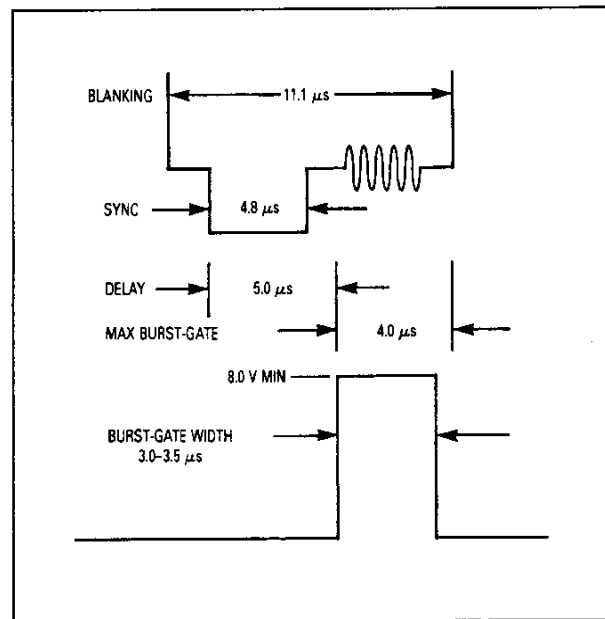
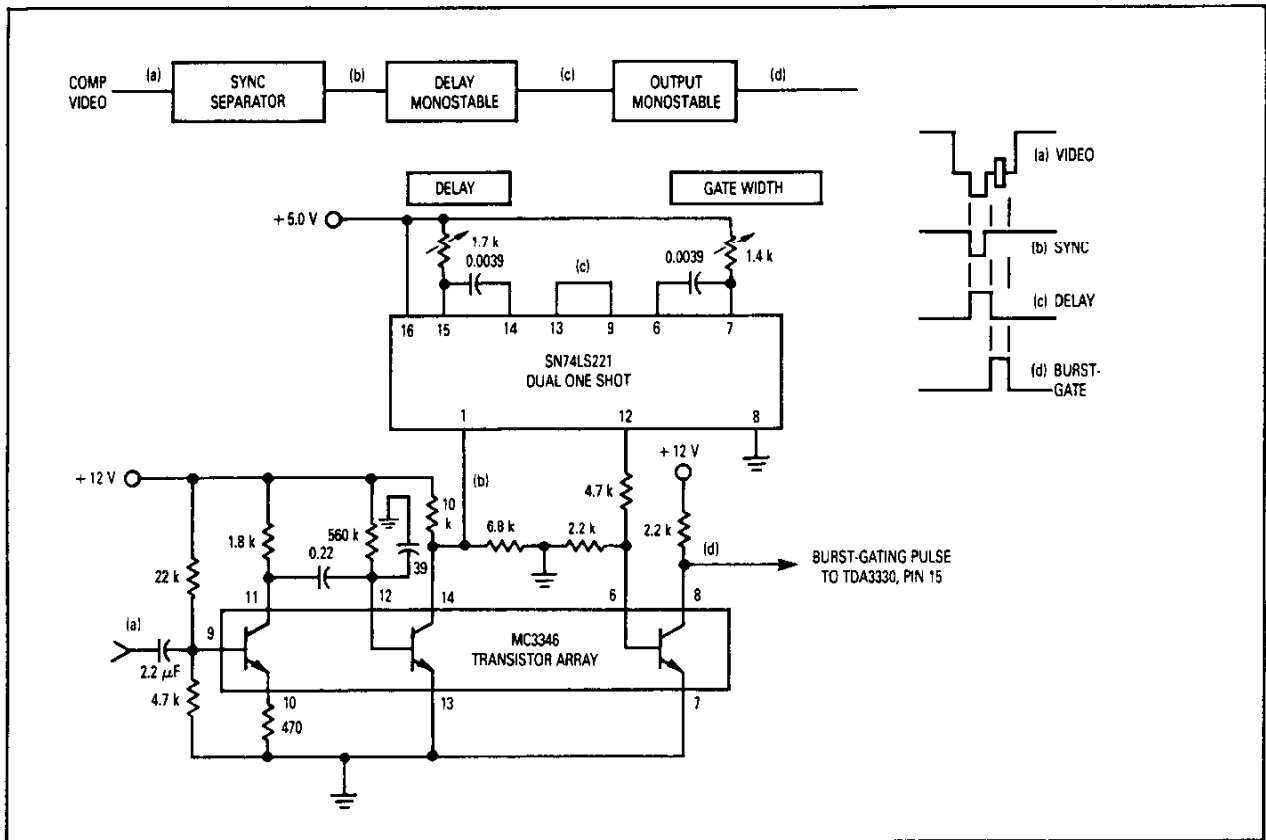
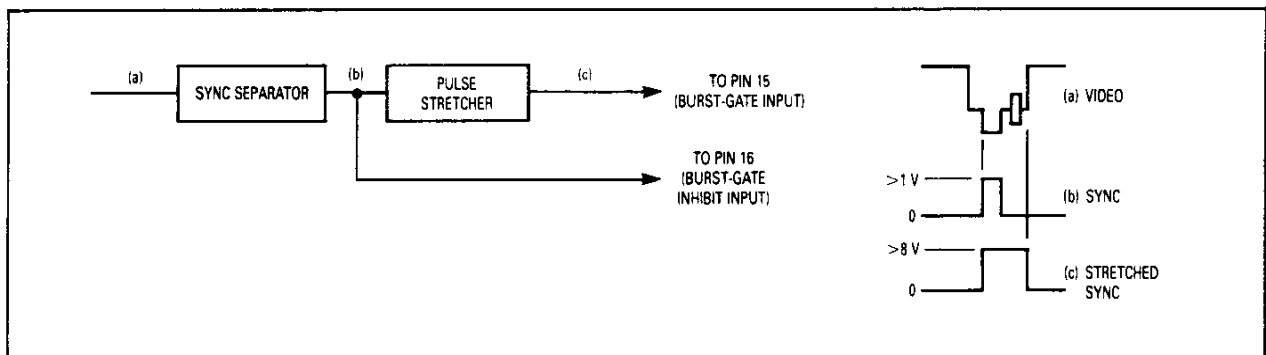

Figure 3. Burst-Gating
Figure 4. Method of Obtaining Burst-Gate from Composite Video
Figure 5. Alternate Method of Gating from Video
It is important that the burst-gate pulse into Pin 15 be at least 8.0 V and timed correctly with respect to incoming video, as shown in Figure 3. If the gate pulse is too late or too wide it will still be present after the blanking has ended, leading to serious errors in black level, color level and VCO lock. The burst-gate pulse can sometimes be obtained from the same equipment that supplies the video, or it can be generated by a couple of one-shots and a sync separator; see Figure 4. Another method is to separate sync. Use a one-shot pulse stretcher to make an 8–8.5  $\mu\text{s}$  wide pulse for Pin 15, and then put the separated sync into Pin 16. (Pin 16 could be called the "burst-gate inhibit"). This will prevent the first part of the Pin 15 pulse from gating sync, which would upset the black level clamping function; see Figure 5.
3. POT #7 sets the Burst-Gate Width and POT #8 sets the Burst-Gate Delay relative to the Video Sync Signal. Use a dual input oscilloscope and look at the Video In signal and the Burst-Gate Signal at Pin 15 of the TDA3330. Adjust POT #8 so that the Burst-Gate Signal begins ~250 ns after the Sync Signal ends. Next adjust POT #7 so that the width of the Burst-Gate Signal is 3.5–4  $\mu$ s. Note: See Figure 3.